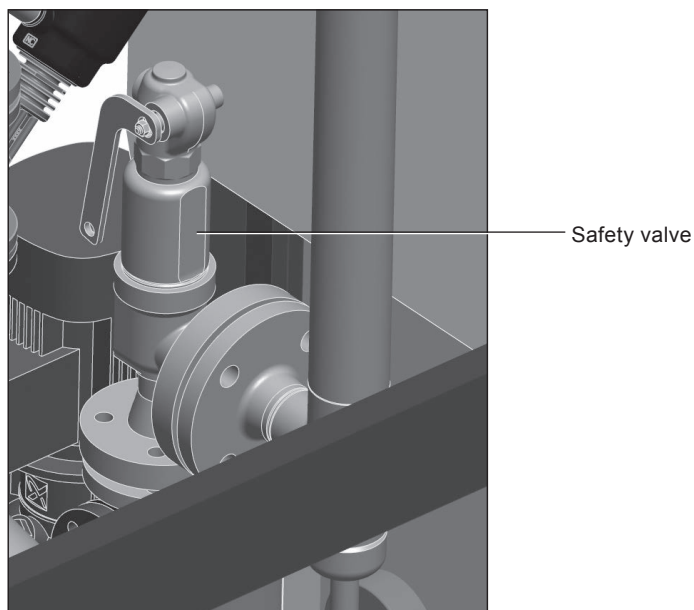

Fig. 15
5.4.5 Pressure safety valve (generator) - Figure 15